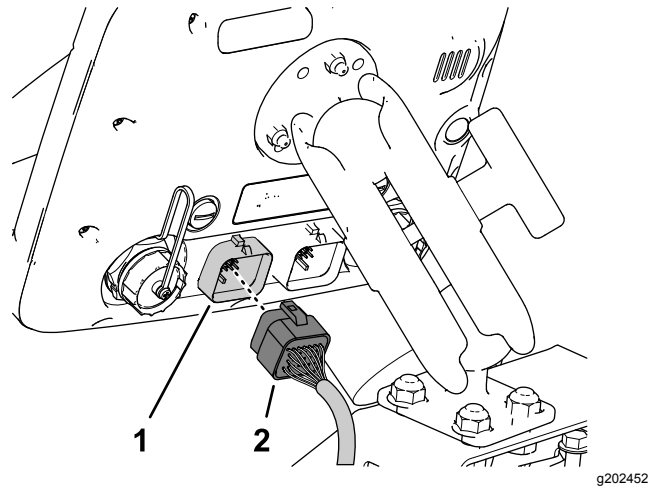

**Figure 207**
1. Route the 220 cm (86-5/8 inch) data-harness branch (the harness branch with the 26-socket connector) forward and under the dash panel (Figure 207).
2. Route the 220 cm (86-5/8 inch) data-harness branch along the support tube for the monitor (Figure 207)
4. Ensure that the 220 cm (86-5/8 inch) data-harness branch has enough slack to allow the sprayer operator to adjust the position of the monitor and secure the harness to the support tube for the monitor with cable ties as shown in Figure 207.